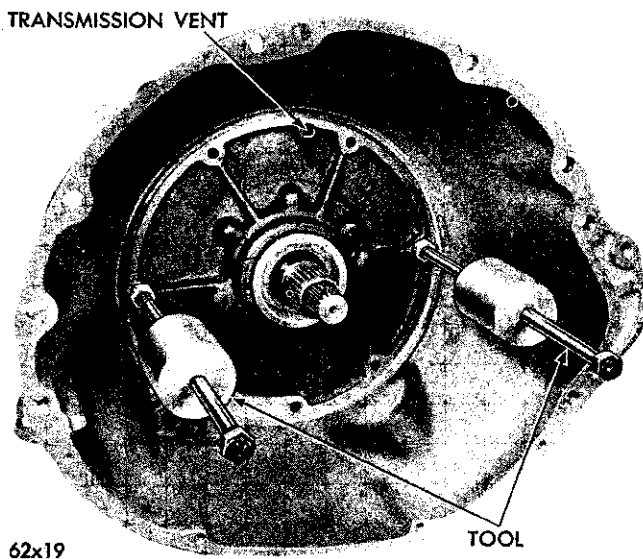

Fig. 53—Removing Front Oil Pump and Reaction Shaft Support Assembly
(1) Remove the front oil pump housing retaining bolts.
(2) Tighten the front band adjusting screw until the band is tight on the front clutch retainer. This prevents the clutch retainer from coming out with the pump which might cause unnecessary damage to the clutches.
(3) Attach Tool C-3752 to the pump housing flange as shown in Figure 53, thread the screws of the tool into the flange holes at 9 and 3 o'clock locations.
(4) Bump outward evenly on the two "knocker weights" to withdraw the oil pump and reaction shaft support assembly from the case.